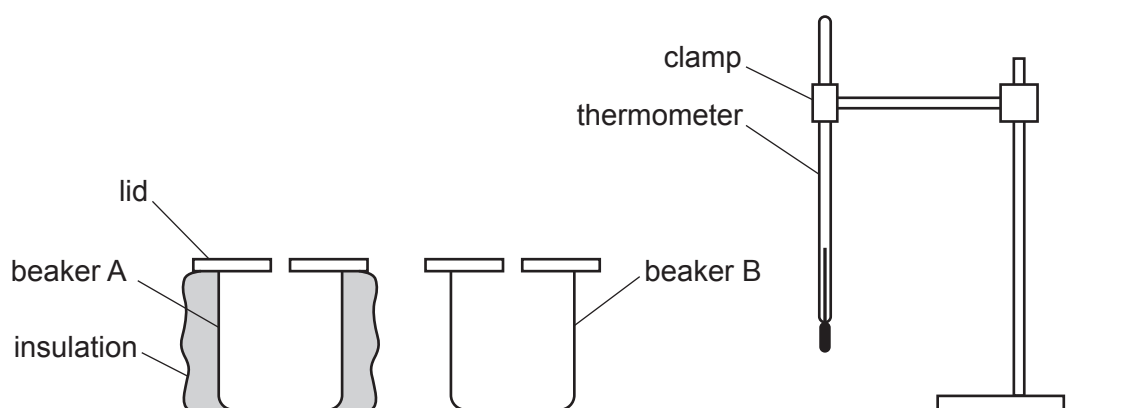

Fig. 1.1
1. The thermometer, clamp, boss and stand are to be set up for candidates as shown in Fig. 1.1. The thermometer bulb must be below the 100 cm^3 level of the beakers. Candidates must be able easily and safely to read temperatures up to 100°C and to move the thermometer into and out of the beakers.
Check that the apparatus is intact and is arranged as in Fig. 1.1.